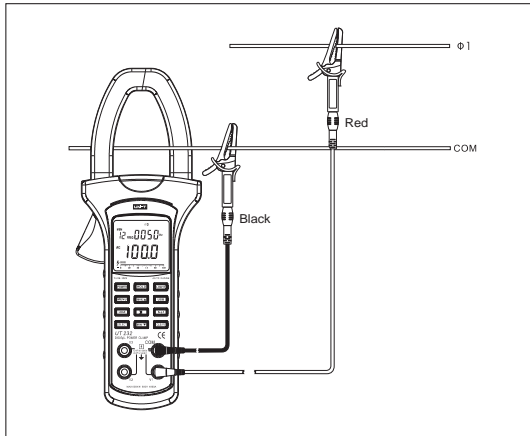

Figure 8
- When measuring single phase 2 wires, connect the Meter as figure 8